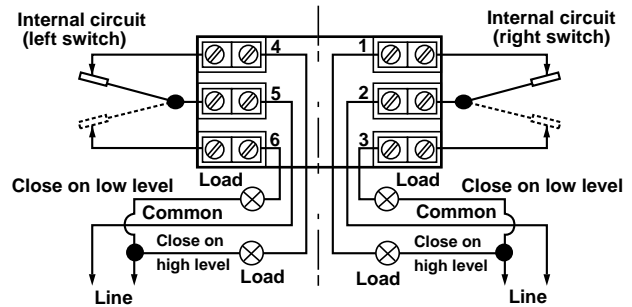

Figure 2 – DPDT terminals
- b. DPDT switch – see **Fig. 2**.